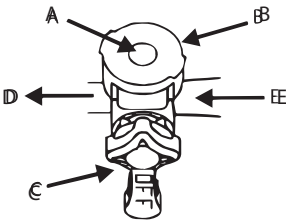

Figure 5
The tap (C) position and the flow directions of the off-directed type stopcock (Figure 5)